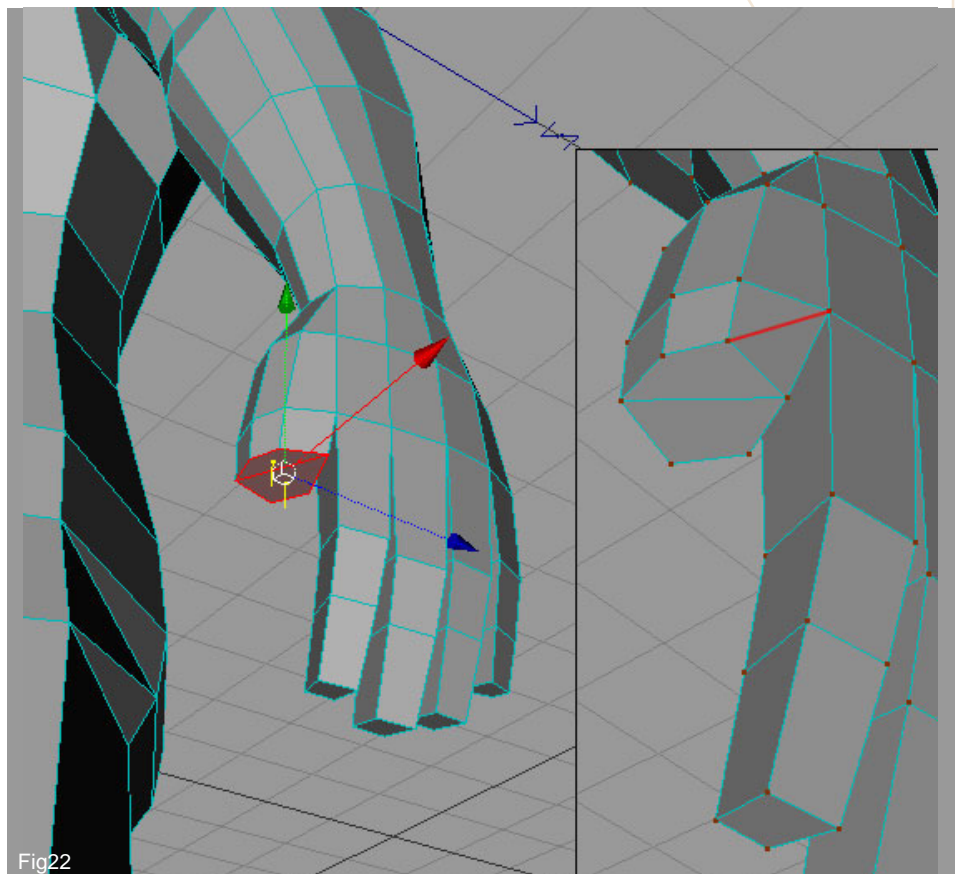

Fig22
17. This is the same procedure for the last finger, so select the two polygons and extrude them, but this time enable "Preserve Groups" option. (Fig22). In order to create a better flow from the palm, add a cut, as shown on the right of the figure.